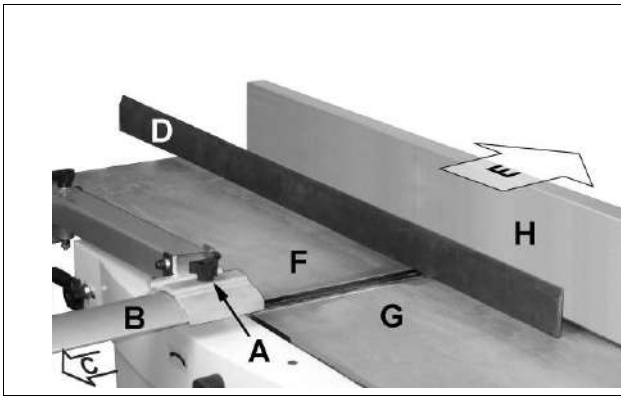

Figure 8
Referring to Figures 8 and 9:
2. Remove the cutterhead guard (B, Fig. 8). Referring to Figures 11 and 12:
3. Carefully number each knife blade (C) with a magic marker to differentiate each.
2. Remove the cutterhead guard (B, Fig. 8).